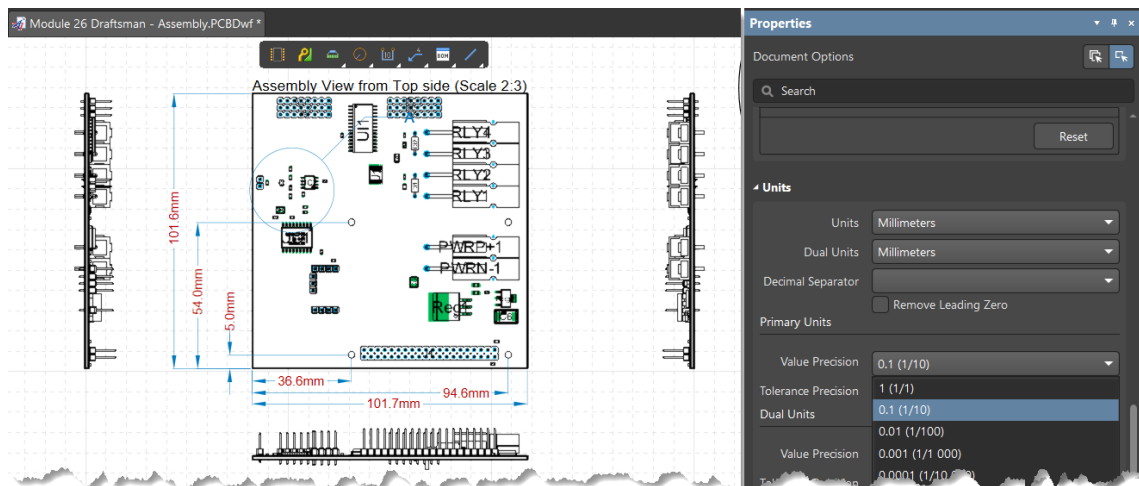

Figure 5. Units for Draftsman Document
- The pane *Units* allows you to change the **Unit** and the **Precision**, as seen at Figure 5.